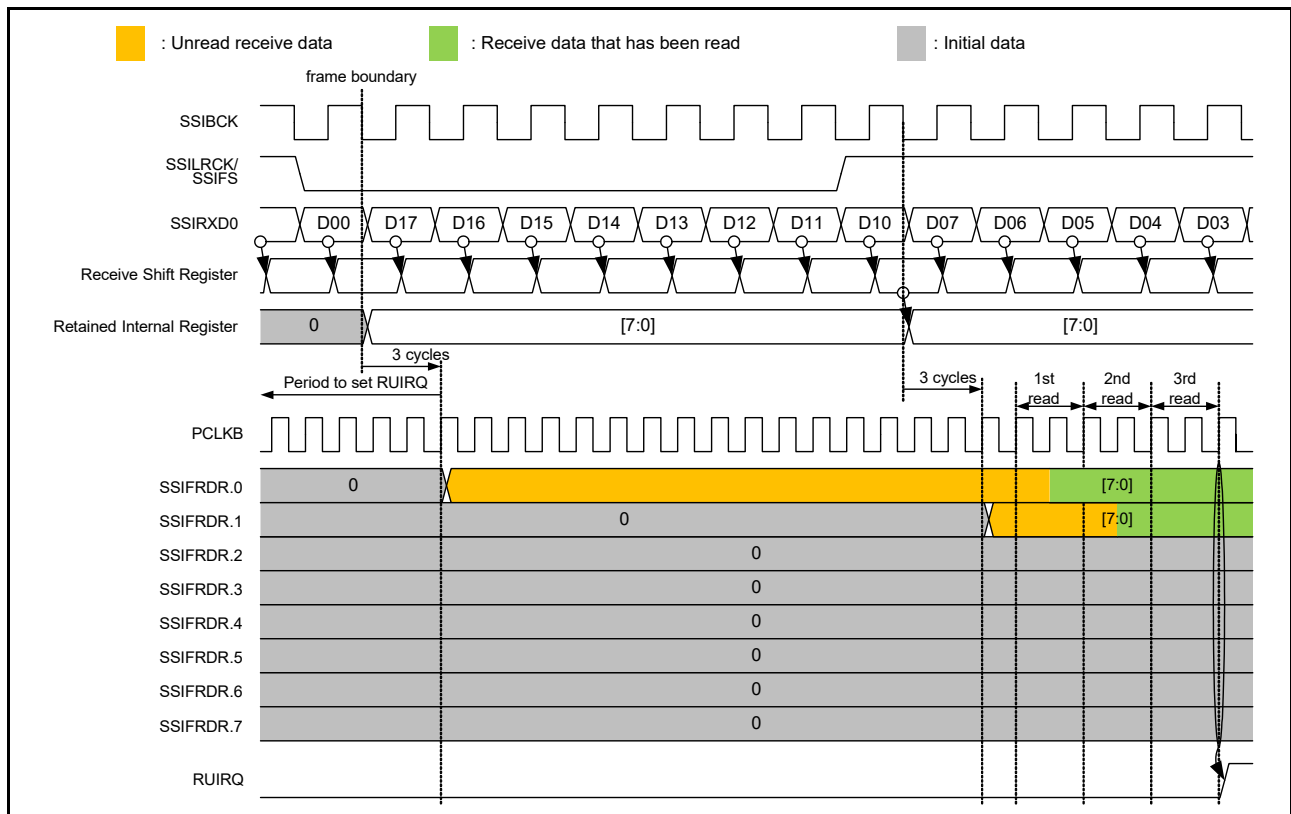

Figure 33.15 RUIRQ setting timing
- At completion of reading from SSIFRDR. See Figure 33.15.